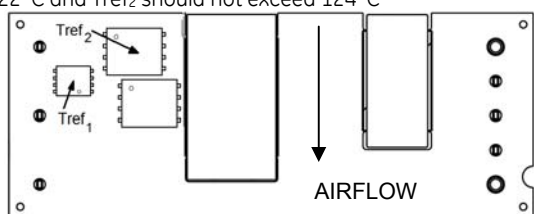

Figure 13. T_{ref} Temperature Measurement Location for Open Frame Module.
To provide protection under certain fault conditions, the unit is equipped with a thermal shutdown circuit. The unit will shutdown if the thermal reference point T_{ref} (Figure 13), exceeds 128°C (typical), but the thermal shutdown is not intended as a guarantee that the unit will survive temperatures beyond its rating. The module can be restarted by cycling the dc input power for at least one second or by toggling the remote on/off signal for at least one second. If the auto-restart option (4) is ordered, the module will automatically restart upon cool-down to a safe temperature.
The thermal reference points, T_{ref1} and T_{ref2} used in the specifications for open frame modules are shown in Figure 13. For reliable operation T_{ref1} should not exceed 122°C and T_{ref2} should not exceed 124°C.